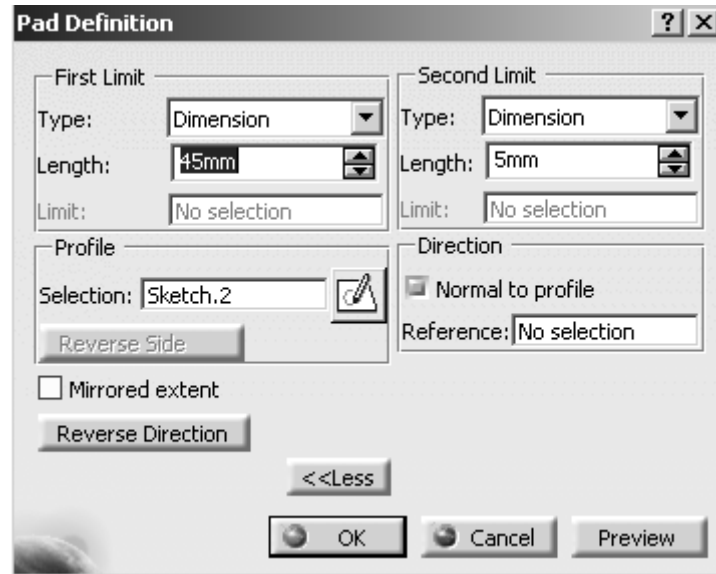
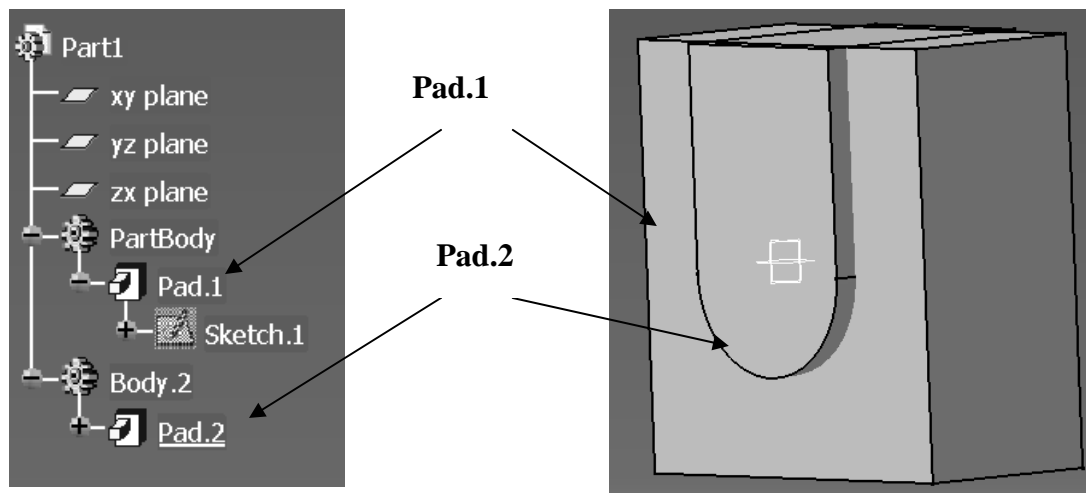

Figure 3.6
Figure 3.7
3.10 In the Pad Definition window, select the More button. Figure 3.6 shows the Pad Definition window already expanded.
- 3.11 In the First Limit box, for the Length, enter “45mm” as shown in figure 3.6
- 3.12 In the Second Limit box, for the Length enter “.5mm” as shown in figure 3.6. Select the OK button. The extruded solid should look similar to the one shown in figure 3.7. if the solid was extruded in the wrong direction you may need to hit the Reverse Direction button to reverse the direction of the extrusion.